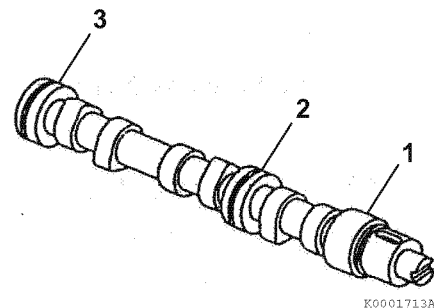

Figure 6-126
4. Measure the diameter of the gear end (1, **Figure 6-126**), intermediate (2, **Figure 6-126**), and flywheel end (3, **Figure 6-126**) bearing journals. See *Camshaft* on page 6-8 for specifications.